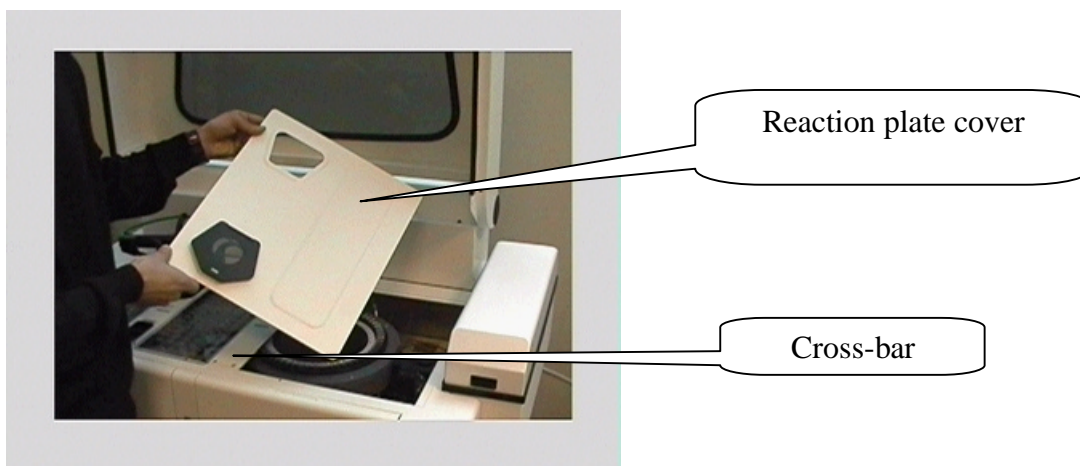

Fig. 1
1. Remove the reaction plate cover (Fig. 1).
2. Unscrew the four cross-bas fastening screws and remove the cross-bar (Fig. 1).